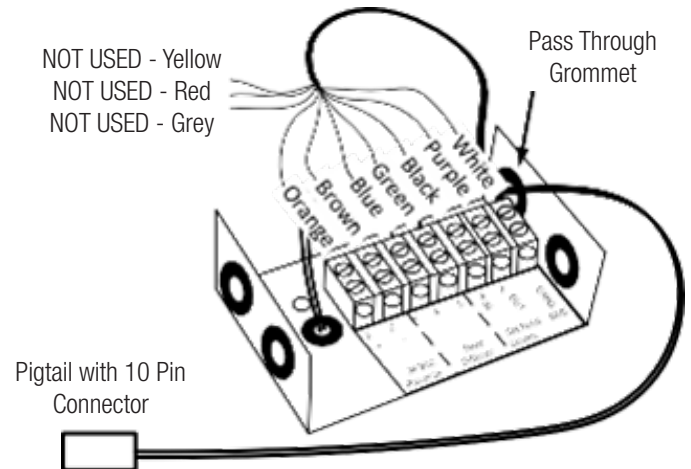

Fig. 7
13. Route the open end of the pigtail with 10 pin connector through the grommet opposite the label on the screw terminal side (see Figure 7).
14. Connect the wires of the pigtail with 10 pin connector (see Figure 7):